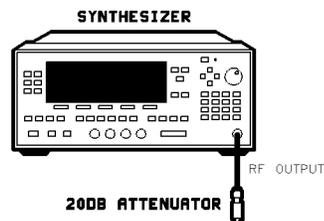

Figure 2-7. Maximum Levelled Power Test Setup
1. Set up and turn on the equipment shown in Figure 2-7. Preset the synthesizer and let it warm up for at least one hour.